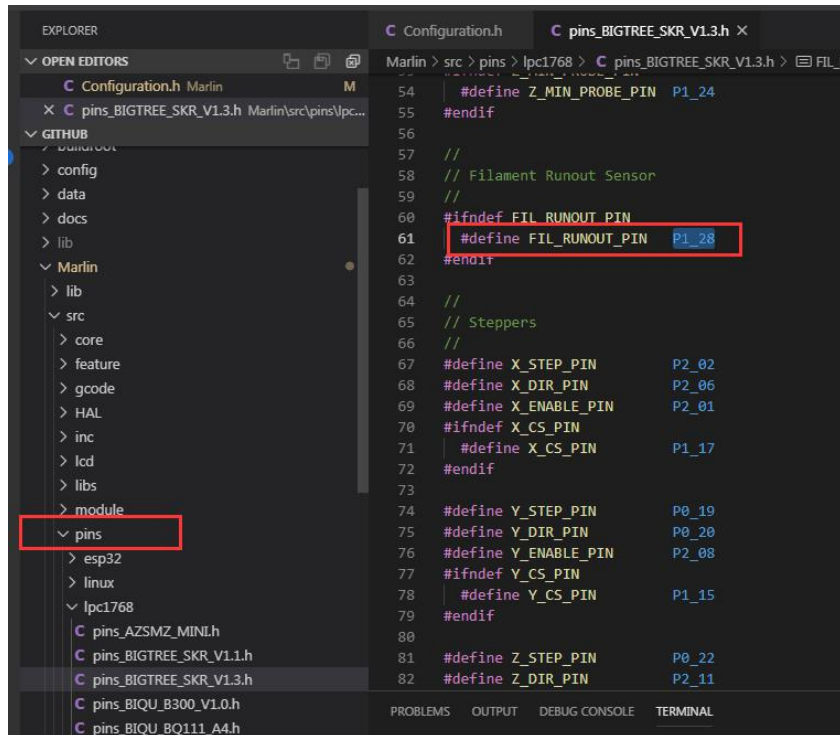

Figure 3
Modify the interface location (as shown in figure 3) to change the interface to any extended interface
1) Take SKR V1.3 (figure 3) as an example